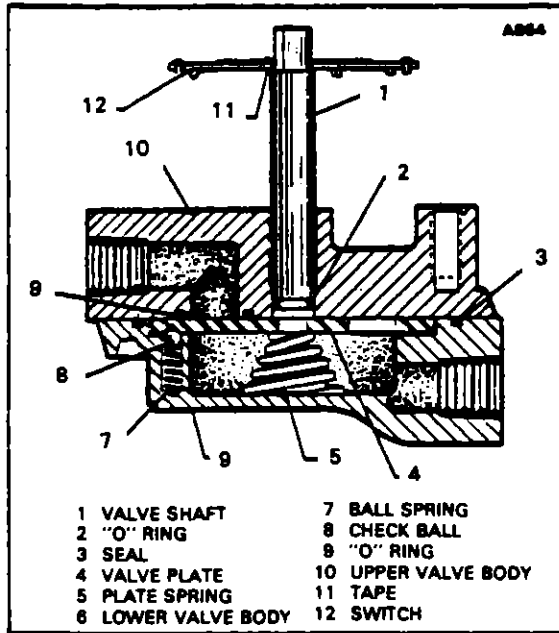

FIGURE 8-12. FIVE POSITION FUEL VALVE
**8-15. Servicing Five Position Fuel Valve (Hoof).** (PA-24-250 and PA-24-260) Normally the five position valve need only be serviced when there are indications of binding or leakage around the valve shaft (1, Figure 8-12), at the mating surface of the upper valve body (10) and lower valve body (6) or if reason to believe that there is leakage through the valve when in an off position. Replacement of "O" rings will usually correct this condition
- b. Check the shaft hole of the valve body (10) where the "O" ring (2) makes contacts for roughness that might damage the "O" ring. Polish the hole surface to remove any roughness.
d If fuel selector switches are installed, connect wiring and carefully slide the main switch (12, Figure 8-12 or 8-13) on the valve shaft (1). Should the main switch fit loose on the valve shaft, shim the flat of switch hole with 1/4 x 7/16 pressure sensitive adhesive tape (11), Spec. PPP-T-60B, Type III, Class I.